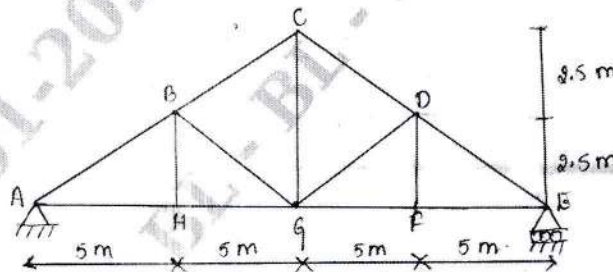

Fig.Q3
- 3 The centre line of a roof truss is as shown in Fig.Q3. The magnitude and nature of forces under service conditions are: